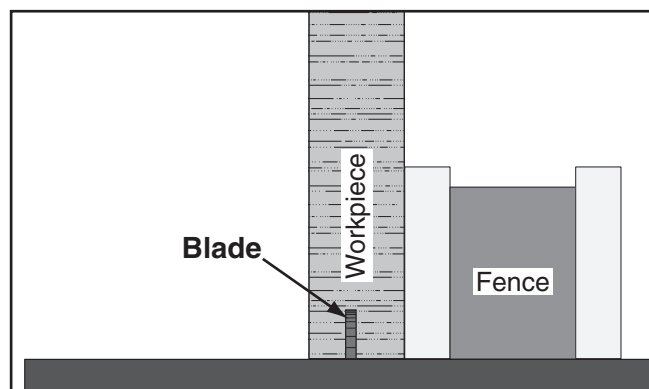

Figure 84. Rabbet cutting with a standard blade.
5. Stand the workpiece on edge, as shown in **Figure 84**, then adjust the fence so the blade is aligned with the inside of your rabbet channel.